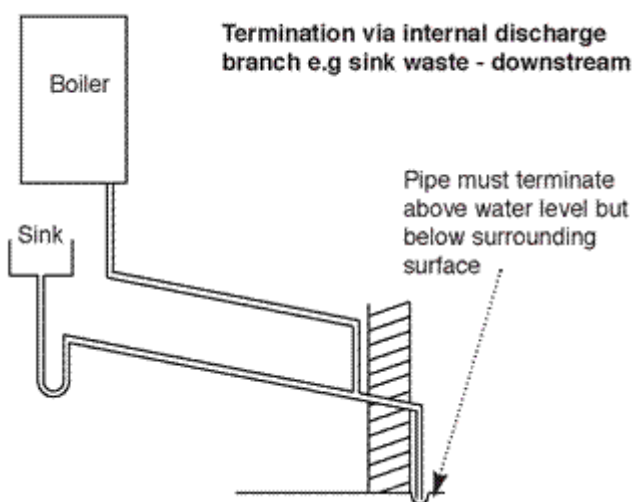

Fig 4
- i. via an internal discharge branch (e.g. sink waste) - Fig. 4.